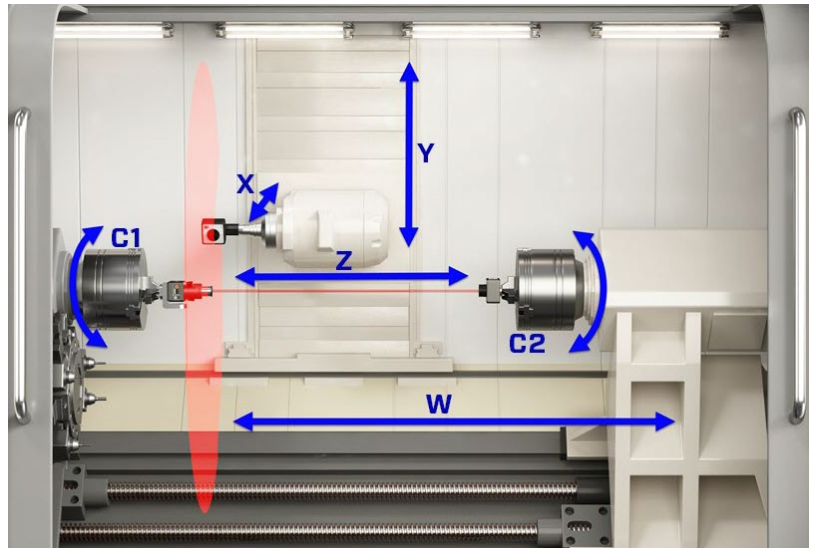

Figure 3 - L-702SP 4-Axis Spindle & Multi-Turn Machine
- Charging LED – yellow – lights when the rechargeable battery is charging (see Figure 3).